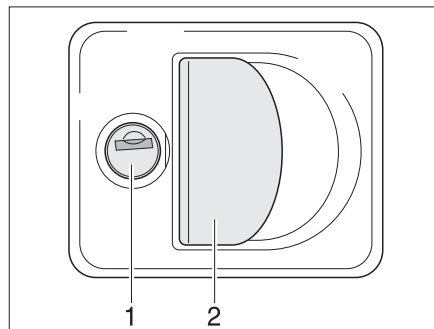

Fig. 50 Flap lock with recessed handle
- Insert key into locking cylinder (Fig. 50,1) and turn a quarter turn. The flap lock is unlatched.
- Pull on the lock handle (Fig. 50,2). The external flap is open.